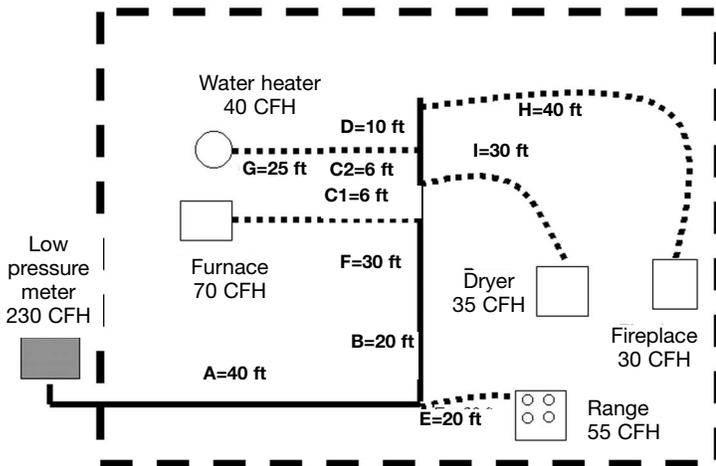
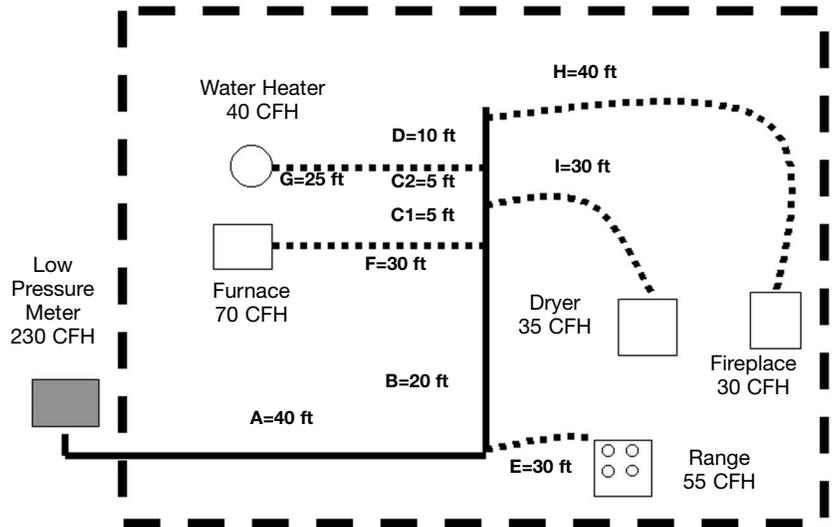

Figure: 3-6
Figure: 3-9
1. The system presented in Figure: 3-6 is a typical residence with 5 appliances. The supply pressure is 7 inches w.c. The allowable drop is 1-inch w.c. total.
- The system presented in Figure: 3-9 is identical to that in Figure: 3-6 a single-family installation with 5 appliances. Low pressure 6-7 inches and a pressure drop of 0.5 inches water column. **NOTE:** in Example: 6 this system was sized using the longest run method. Here we will use the sum of pressure loss method discussed in section 3.2D.